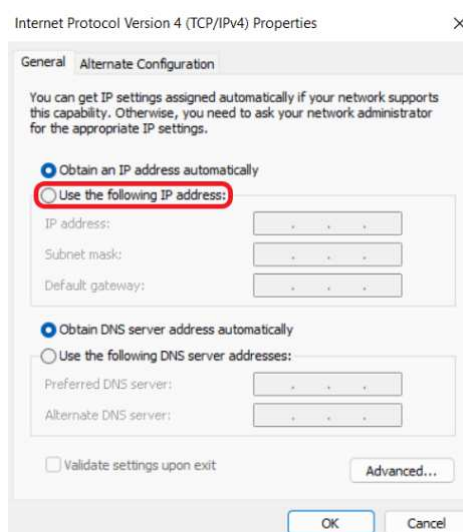

Figure 20: Network Configuration - TCP/IPv4 Properties window
5. Once in the 'Internet Protocol Version 4 (TCP/IPv4) Properties' window you will see several fields that are all greyed out and non modifiable. This is since computers by default are set to 'Obtain an IP address automatically' from your router. To change this, please click on 'Use the following IP address' as is highlighted in Figure 20 below. This will enable you to edit all the fields previously greyed out. For HEAT VIEW controllers, the only fields you need to modify are the 'IP address' and the 'Subnet mask' fields.